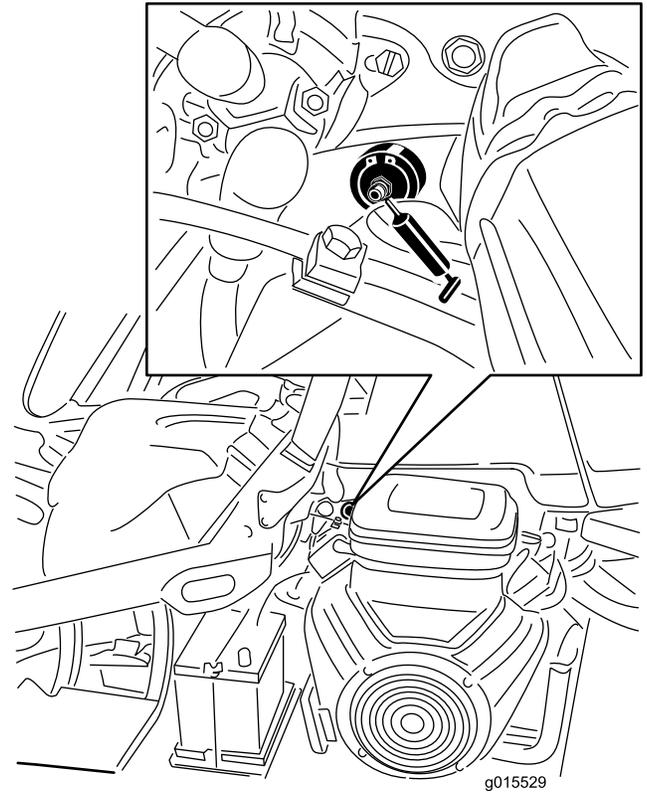

Figure 26
1. Wipe the grease fitting clean so foreign matter cannot be forced into the bearing or bushing (Figure 26).